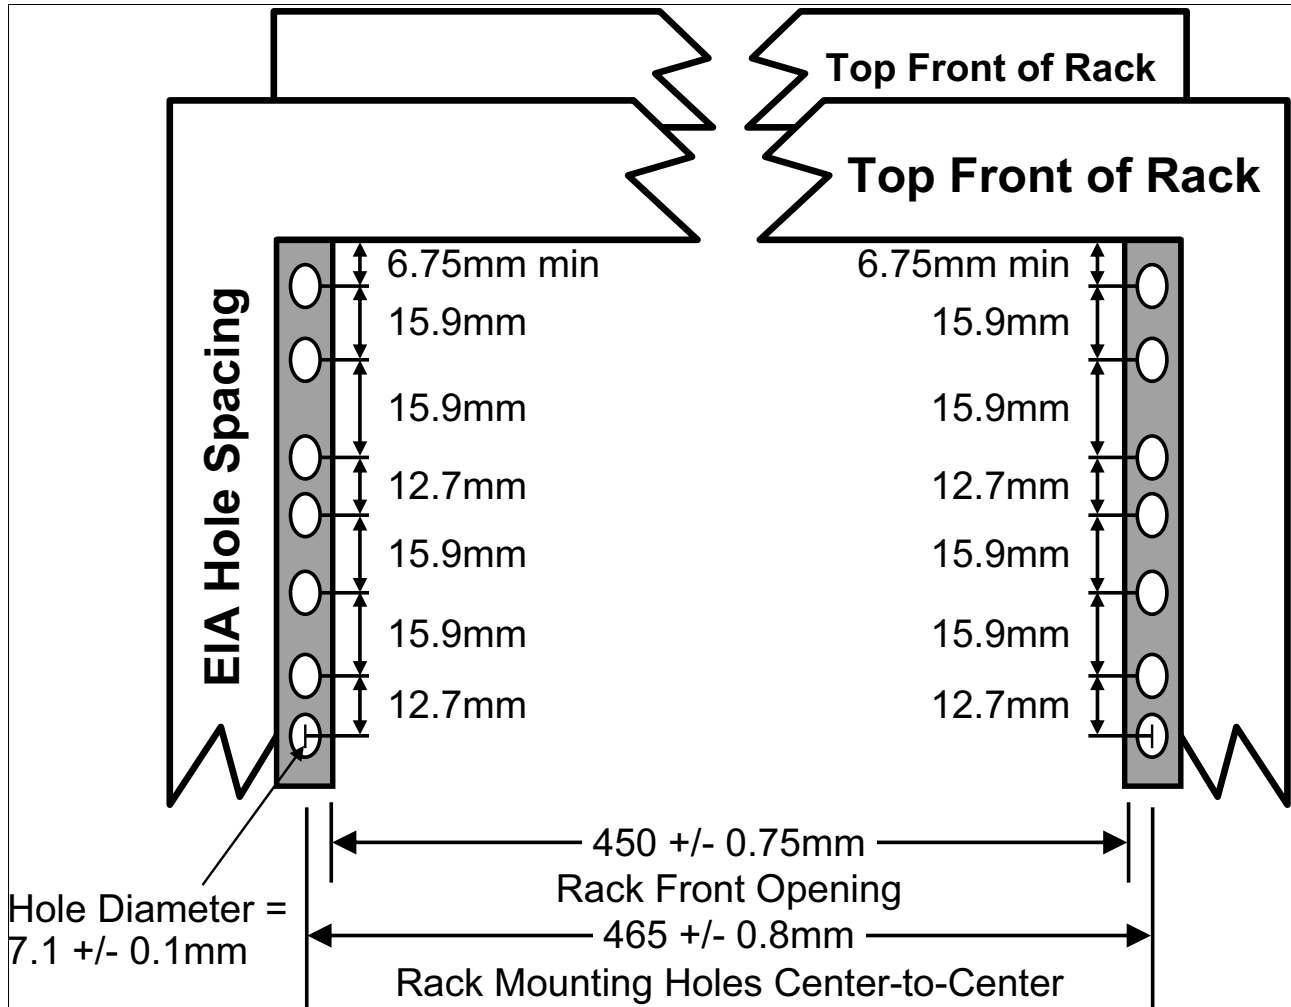

Figure 1-13 Rack specification dimensions: Top front view
- The vertical distance between the mounting holes must consist of sets of three holes spaced (from bottom to top) 15.9 mm (0.625 in.), 15.9 mm (0.625 in.), and 12.67 mm (0.5 in.) on-center, making each three-hole set of vertical hole spacing 44.45 mm (1.75 in.) apart on-center. Rail-mounting holes must be 7.1 mm \pm 0.1 mm (0.28 in. \pm 0.004 in.) in diameter. Figure 1-13 shows the top front specification dimensions.